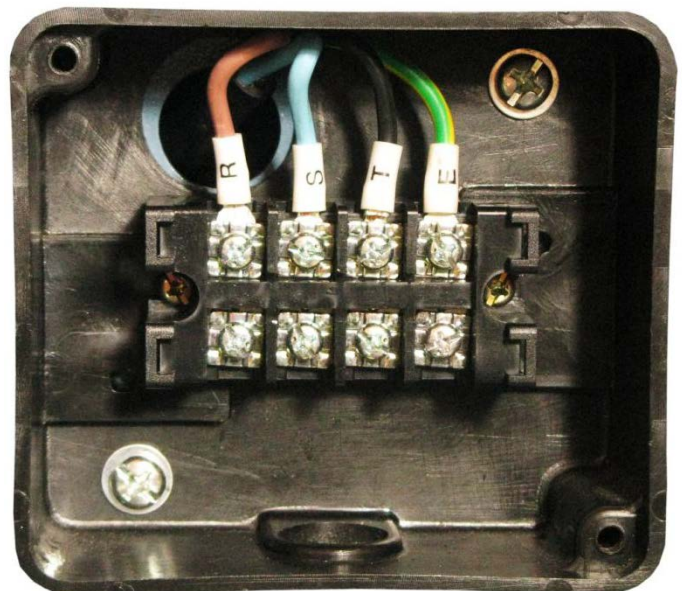

figure 7
1. Locate the junction box at the rear of the lathe and remove the cover. (fig. 7)